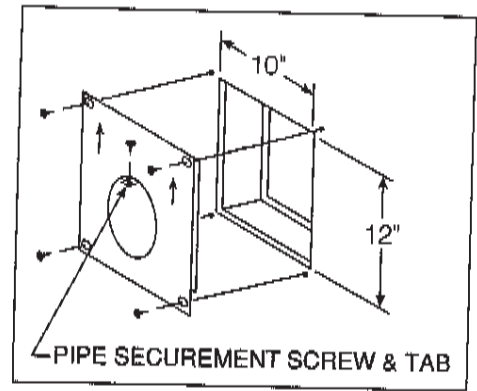

Figure 6
Place the interior wall shield into position and secure with (4) 1" fasteners, (1) in each corner. Bend the tab and use a 1/2" screw to secure the pipe to the wall shield. See Figure 6. Wall thickness must be 4" minimum to 23 1/2" maximum.